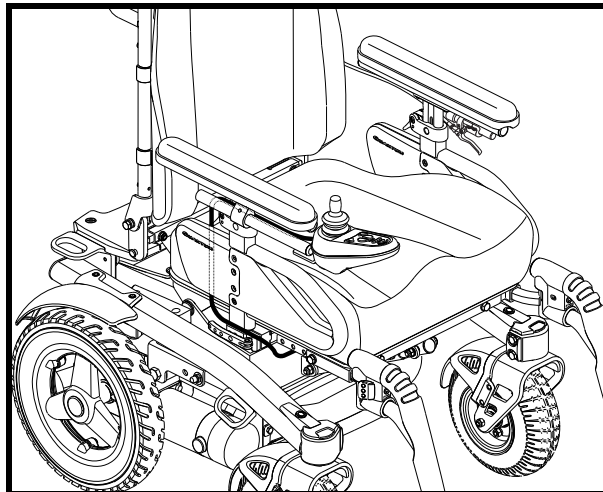

Figure 21. Controller Harness Routing
7. Route the controller harness to the front of the power base and reconnect the controller. See figure 21.
12. Route the controller harness to the front of the power base and reconnect the controller. See figure 21.